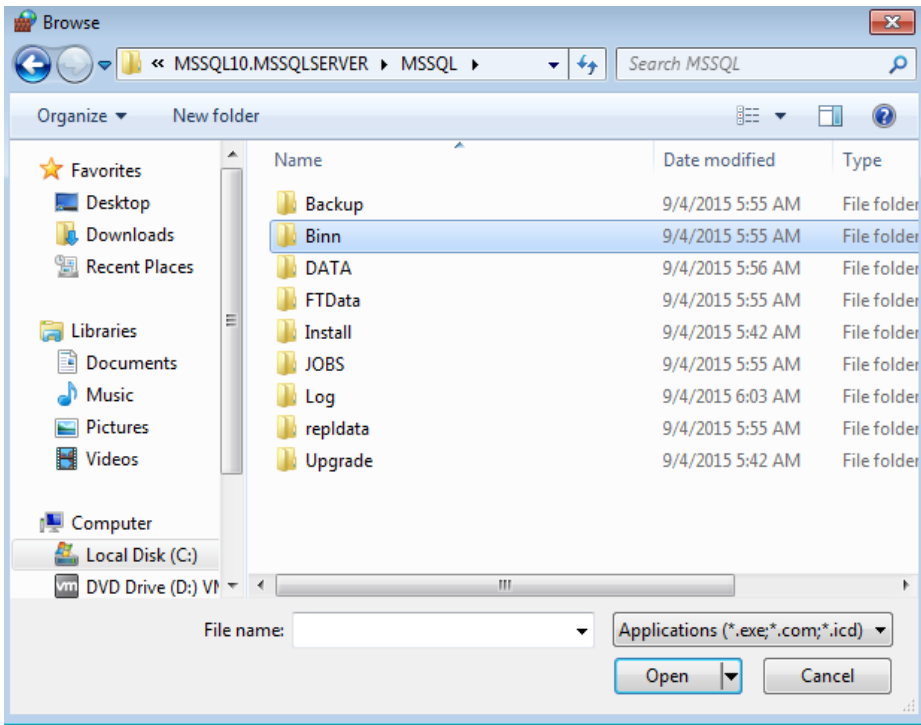

Fig.1.22 Browse
(9) Open MSSQL folder (see Fig.1.22).